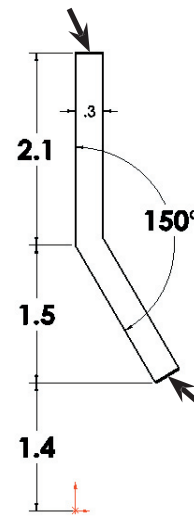

Fig. 7
Step 1. Click **Line**  (L) on the Sketch toolbar.
Step 2. Draw lines to connect the ends of the offset lines, **Fig. 7**. Do not add any extra lines. Do not leave gaps between lines. If you make a mistake, use Undo, **Ctrl-Z**. Use **L** key to start and stop line.